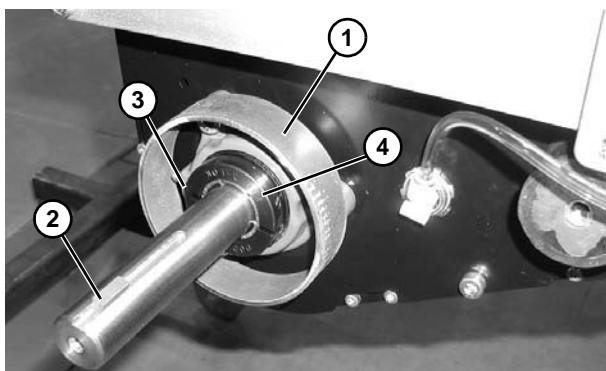

Figure 126
3. Remove spacer ring (**Figure 126, item 1**) and key (**Figure 126, item 2**). Loosen clamp screw (**Figure 126, item 3**) and remove bearing collar (**Figure 126, item 4**).
7. Reinstall bearing collar (**Figure 126, item 4**). Tighten clamp screw (**Figure 126, item 3**) to 95 in-lbs (11 N-m).
8. Reinstall key (**Figure 126, item 2**).